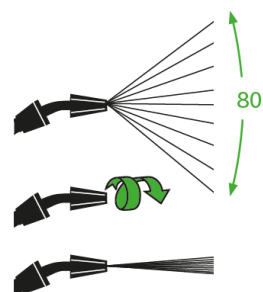

Fig. 4b
- You can adjust the spray pattern by turning the spray nozzle (10). Refer to Fig. 4b.
- Release both trigger (17) and trigger lock on the handle (16) to stop spraying.